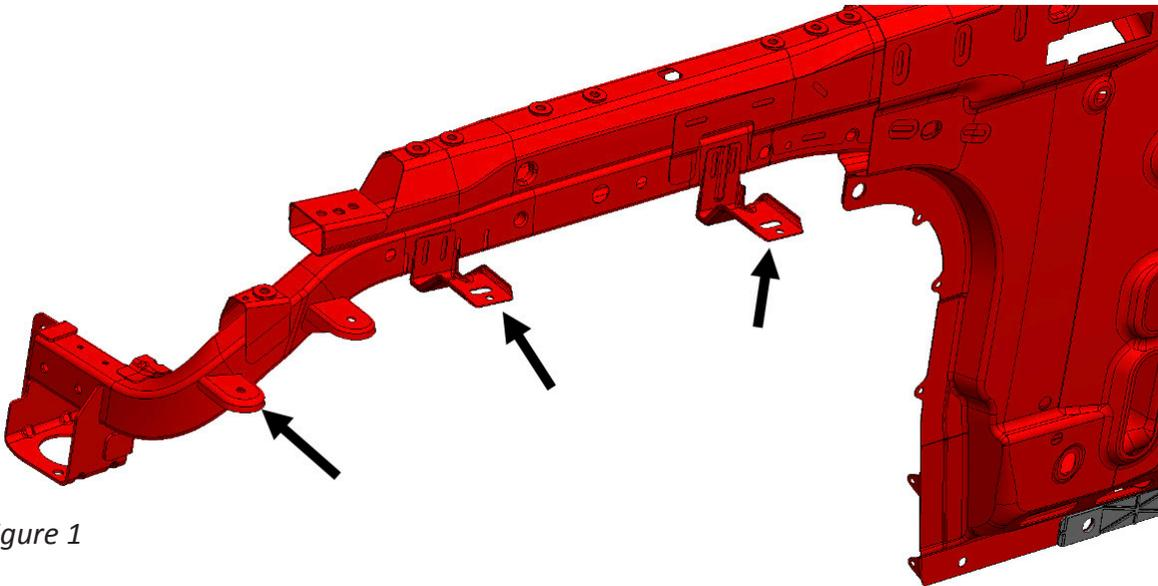

Figure 1
2. Use a cutting tool to remove the three fender mounting tabs shown below. Figure 1.